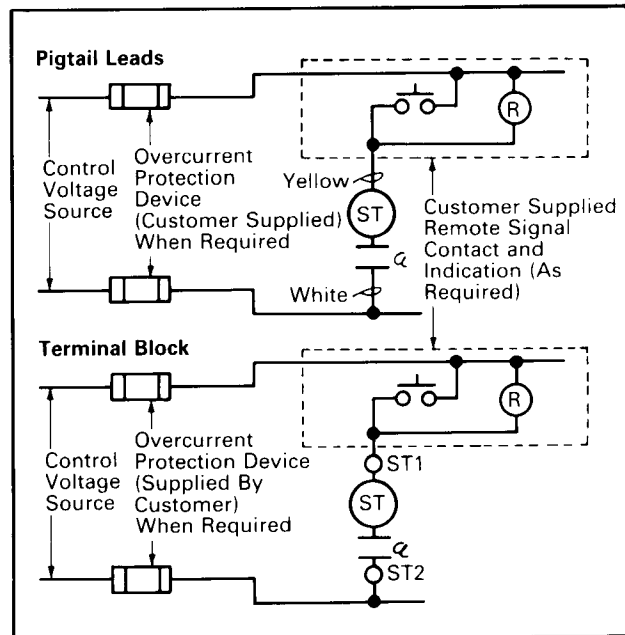

Fig. 2-9. Low Energy Shunt Trip Connection Diagram
- 2-18. Connect LEST to ground fault detection circuit to be monitored. (See Fig. 2-9.) Yellow lead is positive.